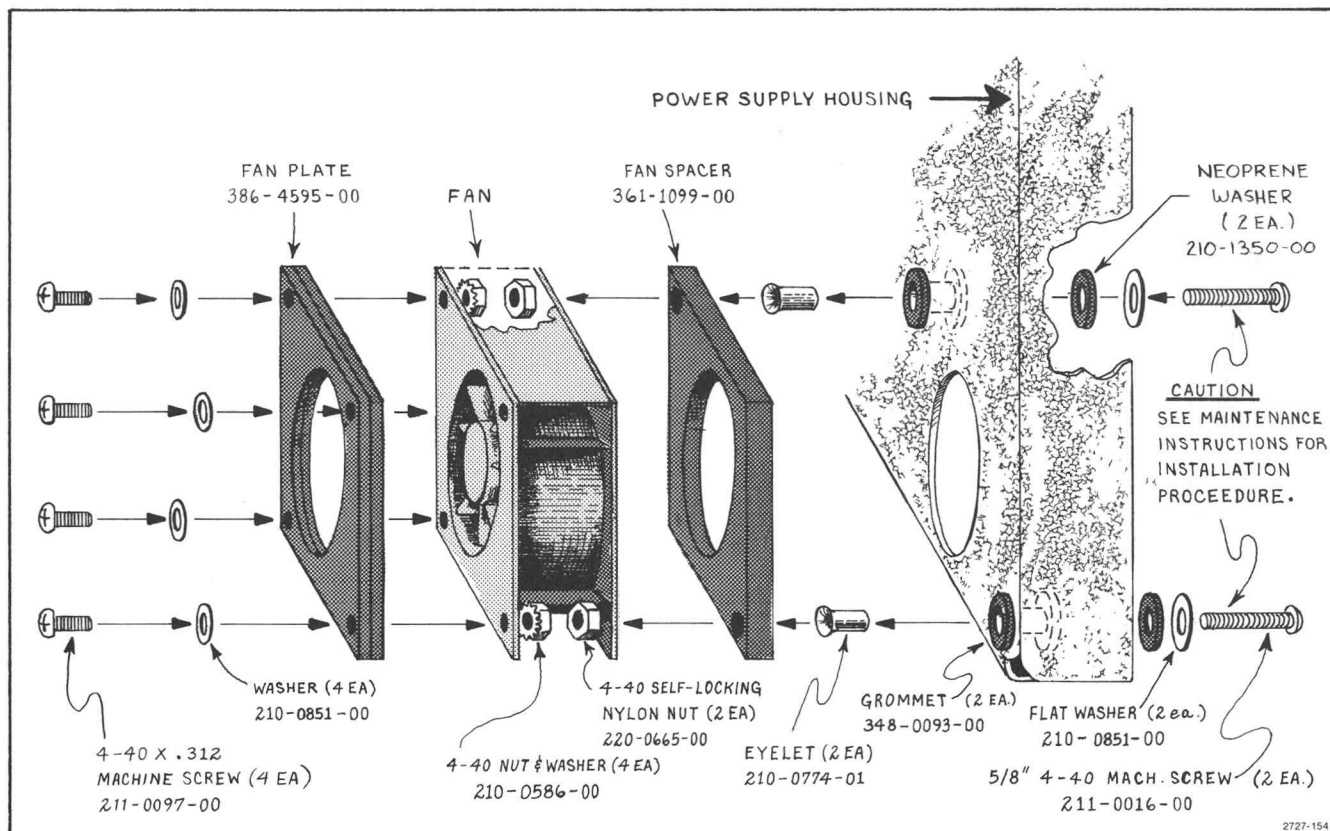

Fig. 4-9. Exploded drawing of fan assembly.
Instruments SN B010322 and up may have a compliant mounted fan (see Fig. 4-9). It is important that the mounting screws for these fans are not over-tightened.
1. Refer to Fig. 4-9 and replace as follows:
- b. Insert the two 5/8 inch machine screws, with washers mounted as shown in Fig. 4-9, through the two eyelets. Place the fan in position then while holding the nylon nut with needle-nose pliers, screw the mounting screws into the nut until the end of the screw is just flush with the nut. The nylon nuts are self locking. Do not re-use the nylon nuts because vibration may loosen re-used nuts.